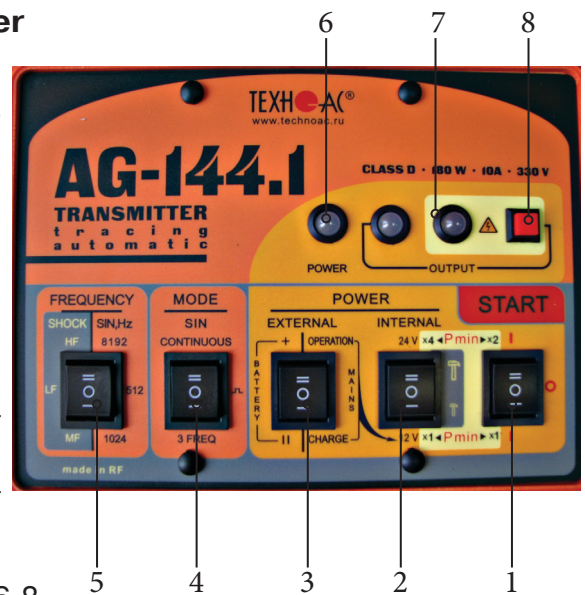

Fig.6.8
Turn on the power supply by positioning the power on switch (Pt. 1 Fig 6.8) into one of the «I» positions, depending on selected power. If the «Power» indicator (Pt. 6 Fig 6.8) glows yellow, charge the internal batteries; if it glows green, you may commence the work.
6.5.2 Using selector switch «MODE SIN» (Pt. 4, Fig 6.8), select the required type of sinusoidal transmission («CONT»/«»/»3 FREQ»).
Set the selector switch (Pt. 3, Fig 6.8) to position «OPER».
Using the internal source voltage selector switch (Pt. 2, Fig.6.8), set the first factor of the transmission power selection.
6.5.4 Switch on power supply setting the power on-key (Pt. 1, Fig 6.8) to the position corresponding to the second factor of power selection.
6.5.5 Transmission and automatic matching will start with gradual output voltage increase. Watch the colour of indicator «OUT» (Pt. 7, Fig 6.8). If automatic matching ends with green light, the preset power has been reached. If automatic matching ends with yellow light, the load resistance is too high for the preset power while the output power is limited «by default» at the «safe» level of 24 V.
To start «unlimited» mode, switch on power supply (using the selector switch «START»), with the red button «» pressed (pos 8, Fig 6.8) and held pressed till the red indicator «»lights up. Blinking light of this indicator means possible «danger». Continuous light signals about actual presence of output voltage ≥ 24 V.
- Connect the shock device to the transmission output connector. When the energy is on, the instrument switches over to mode «SHOCK» (Pt. 5 Fig 6.8) automatically, where one of the three repetition rates of shock pulses (30-60-120 shocks per minute) can be selected, and the shock force is directly proportional to the supply voltage.
- Using the selector switch «SOURCE INTERN» (Pt. 2 Fig 6.8), select the shock force («12 V» – lower, «24 V» - higher).
6.6.1 Switch off the transmitter power supply by setting the power on-button (Pt. 1, Fig 6.8) to position «0».